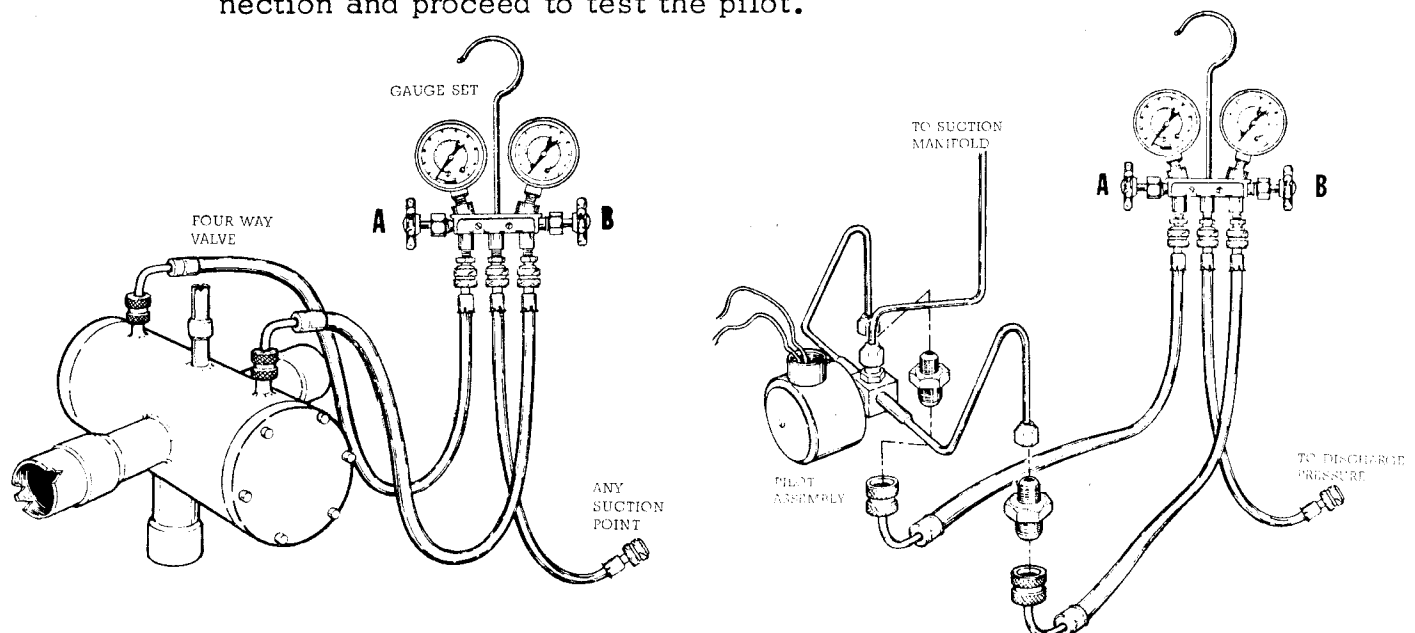

Figure IX-12
3. Connect a gauge set to the 1/4 inch SAE connections on the main valve body. See Figure IX-12. Hand valves "A" and "B" should be closed.
2. Referring to the pilot assembly in Figure IX-12, connect the gauges to the 1/4 inch flare nuts of the pilot assembly tubing.
- a. With gauges connected to the pilot assembly as in Figure IX-12, shutoff the pressure source to the center gauge hose and open the hose to the atmosphere.